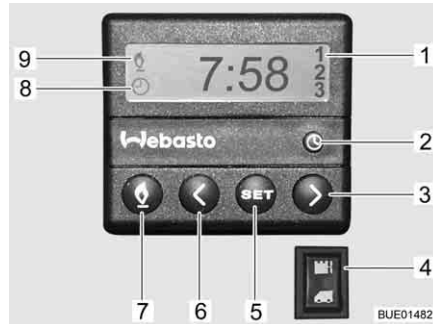

Fig. 178 Operating unit for independent vehicle heater
- Press the button (Fig. 178,7). The heating mode is displayed by the symbol (Fig. 178,9). The fan will only be switched on when there is a coolant temperature of 30 °C.
- Press the button (Fig. 178,7). The symbol (Fig. 178,9) goes off.
- Press the lower part of the switch (Fig. 178,4). Engine is preheated. The fan is switched on immediately.
- Press the upper part of the switch (Fig. 178,4). Engine stays cold.
- Press the button (Fig. 178,2). The time setting is displayed by the symbol (Fig. 178,8).
- Set the time with the buttons (Fig. 178,3 and 6).
- Press the button (Fig. 178,5).
- Set the switching on time within ten seconds, with the buttons (Fig. 178,3 and 6).
- Keep pressing the button (Fig. 178,5) until the selected programme number (Fig. 178,1) appears in the display.